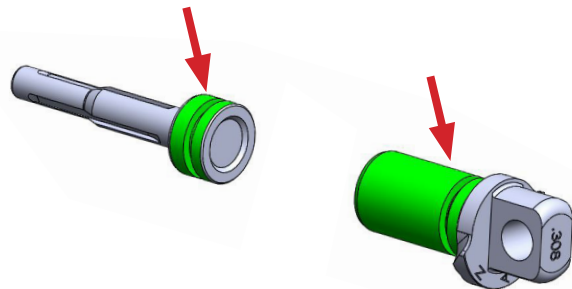

Fig. e-1
3. Apply a light coating of CLP to the gas adjustment valve and the large ring on the gas piston. (Fig. e-1)